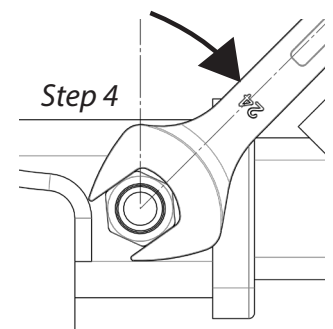

Fig 4. Tightening of Silent Anti-Rattle Hitch Pin Nut
- f. Remove plastic step to gain access to 5 plastic scrivets to be removed, refer figure 4.
Tighten HITCH PIN NUT by turning nut a further 1/8th of a turn in the clockwise direction using a 24mm spanner (Fig. 4).